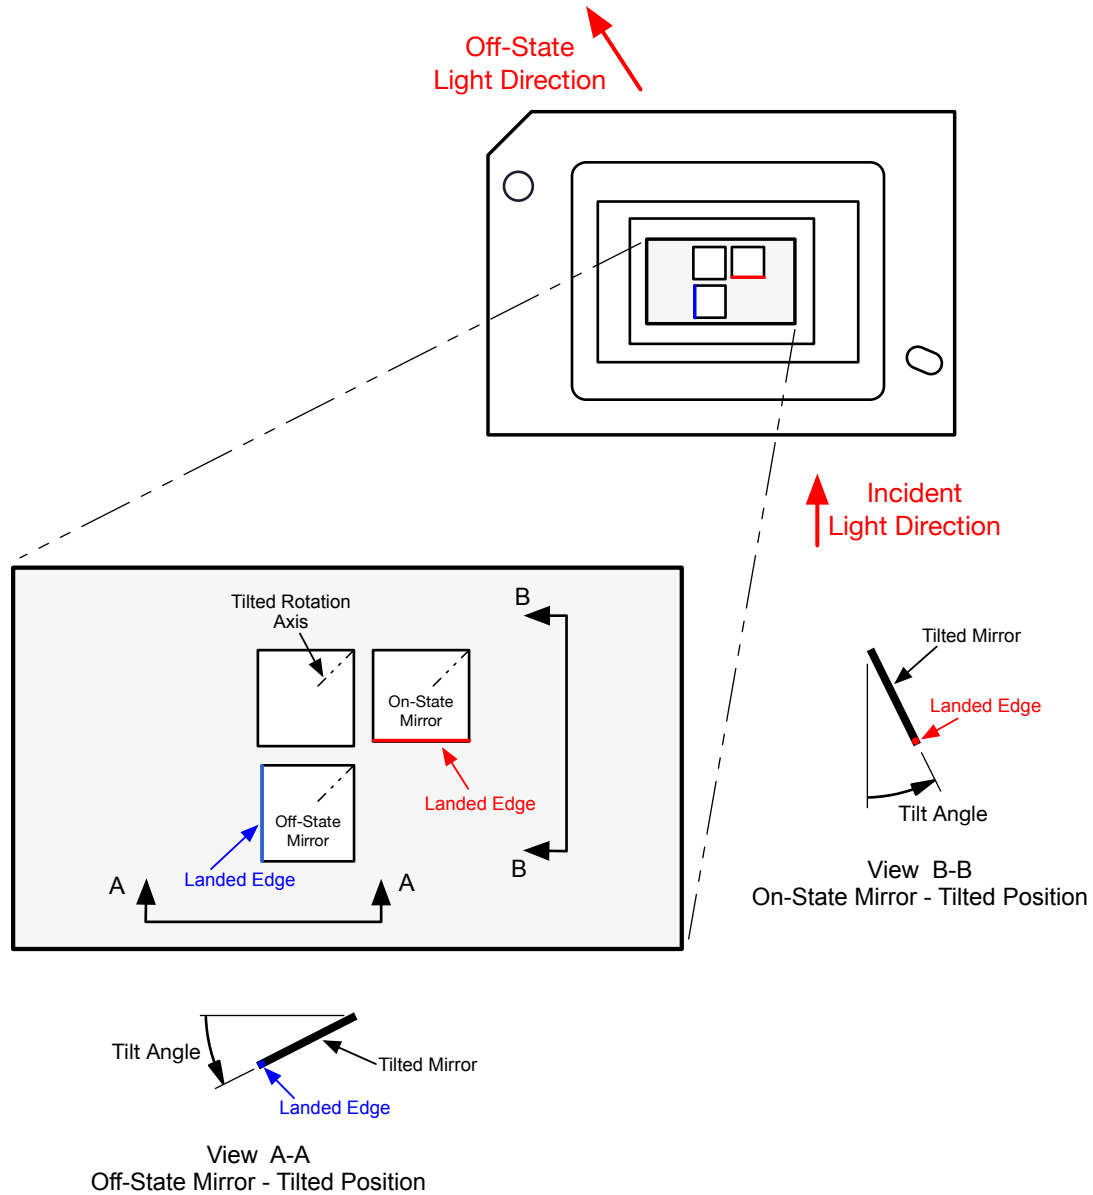

Figure 6-15. Micromirror Landed Orientation and Tilt
- (1) Measured relative to the plane formed by the overall micromirror array.
- (2) Represents the variation that can occur between any two individual micromirrors, located on the same device or located on different devices.
- (3) For some applications, it is critical to account for the micromirror tilt angle variation in the overall system optical design. With some system optical designs, the micromirror tilt angle variation within a device may result in perceivable non-uniformities in the light field reflected from the micromirror array. With some system optical designs, the micromirror tilt angle variation between devices may result in colorimetry variations, system efficiency variations or system contrast variations.
- (4) When the micromirror array is landed (not parked), the tilt direction of each individual micromirror is dictated by the binary contents of the CMOS memory cell associated with each individual micromirror. A binary value of 1 results in a micromirror landing in the ON State direction. A binary value of 0 results in a micromirror landing in the OFF State direction. See Figure 6-15.
- (5) The time required for a micromirror to nominally transition from one landed state to the opposite landed state.
- (6) The minimum time between successive transitions of a micromirror.
- (7) Conditions of Acceptance: All DMD image quality returns will be evaluated using the following projected image test conditions:
- (8) Bright pixel definition: A single pixel or mirror that is stuck in the ON position and is visibly brighter than the surrounding pixels.